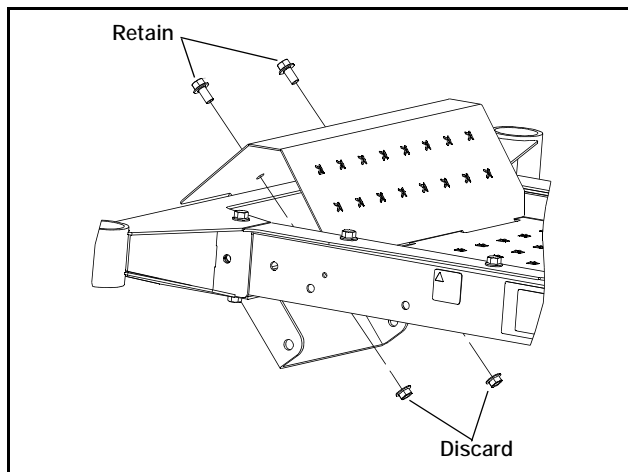

FIG. 13
- Remove the .375" nuts and bolts from the front of the footrest. Retain the bolts and discard the nuts. (FIG. 13)